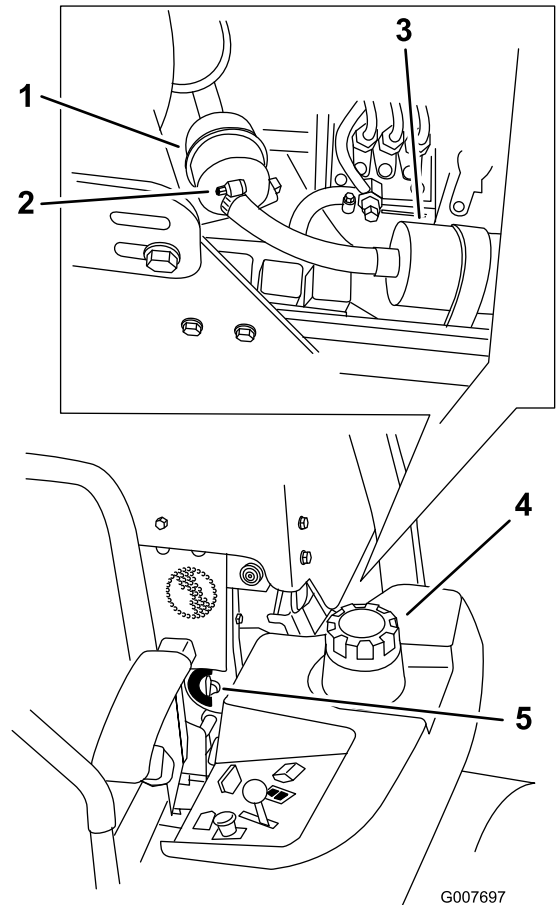

Figure 44
4. Close the fuel-shutoff valve (Figure 44).
5. Loosen the 2 hose clamps and disconnect the fuel lines from the fuel filter (Figure 44).
6. Install a new filter. Connect the fuel lines to the fuel filter and install the 2 hose clamps (Figure 44).